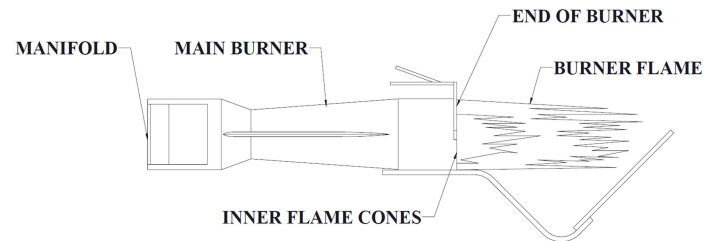

FIGURE 2: Burner Flame Drawing
7. Examine the burner flames to make sure they are in good adjustment. The flame should appear long and cylindrical (Refer to Figure 2 as comparison to the actual flame.) with a blue color. Some yellow streaks may appear especially near the tip of the flame. (LP) Propane flame appears less blue and has considerably more yellow streaking.